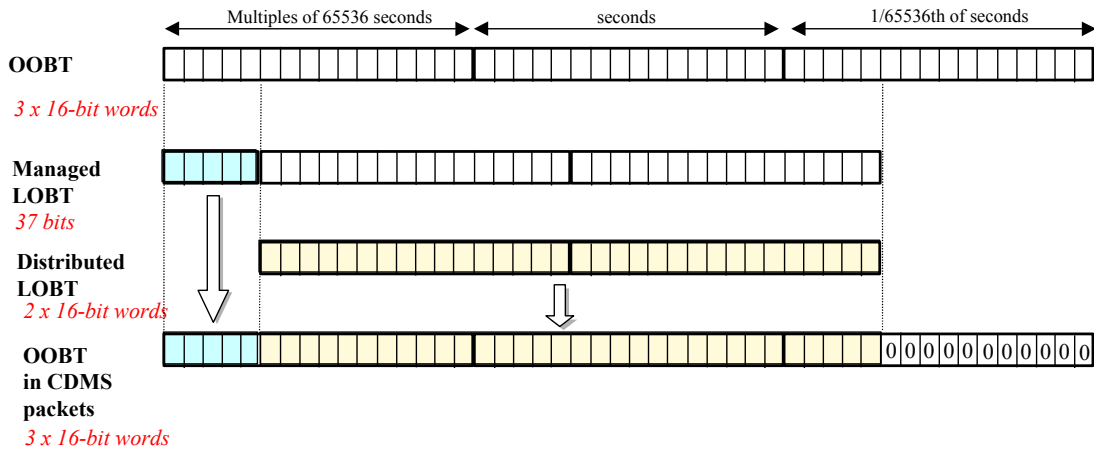

Figure 3.1: Reconstruction of on board time in CDMS packets
To comply with ESA requirements, the time registered in the CDMS packets is the Orbiter On-Board Time (OBT). It is reconstituted from the Lander On-Board Time (LOBT), as shown in Figure 3.1...
- ◆ The relationship between both time formats (OBT and LOBT) is given in AD10. Afterwards, SONC processes science raw packets in order to recompose the science measurement (e.g. an image or a spectrum). Figure 3.1 gives an overview of this data flow.